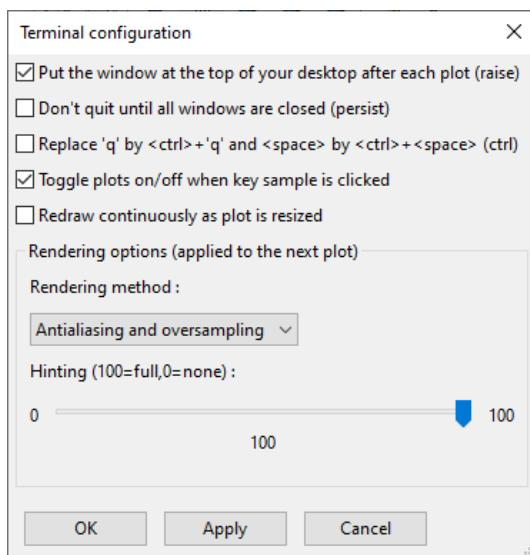

Fig. 5.3: Gnuplot configuration window.
- Open a gnuplot configuration window similar to that in **Fig. 5.3** .